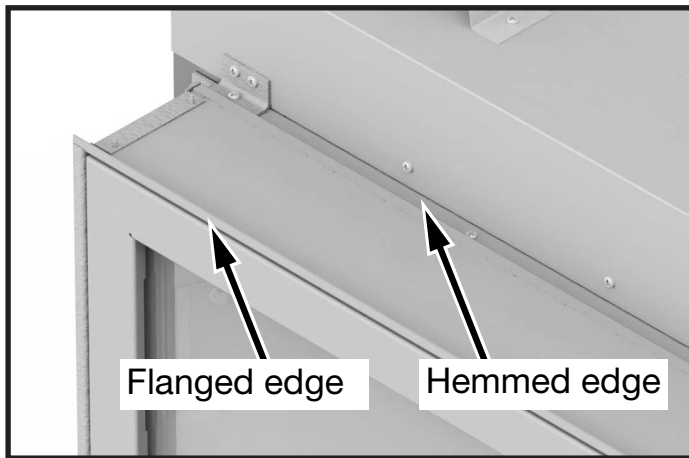

Figure 19: Optional lintel edge.
1. The fixed lintel has two orientations, a flanged edge and a hemmed edge (Figure 19). The lintel comes factory installed with the flange edge out. If the desired edge is different from the factory setting, use the following steps to change the lintel edge.